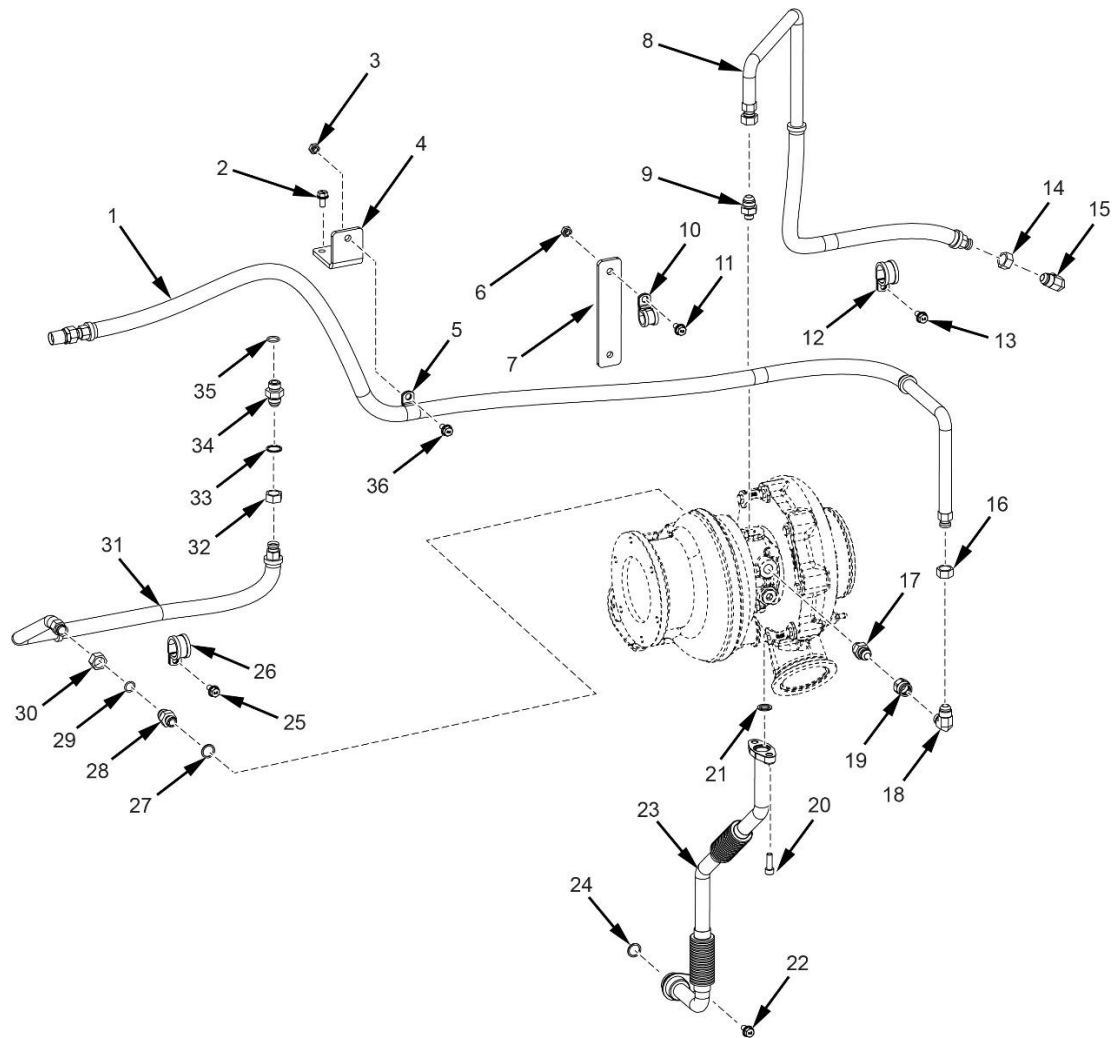

Figure 19. Turbocharger Assembly
2. Remove bolt (Figure 19, Item 36), clamp (Figure 19, Item 5) and nut (Figure 19, Item 3) from bracket (Figure 19, Item 4).
3. Remove two bolts (Figure 19, Item 2) and bracket (Figure 19, Item 4).
4. Remove bolt (Figure 19, Item 11), clamp (Figure 19, Item 10) and nut (Figure 19, Item 6) from bracket (Figure 19, Item 7).
5. Remove fitting (Figure 19, Item 16) and coolant outlet (Figure 19, Item 1) from elbow (Figure 19, Item 18).
6. Remove elbow (Figure 19, Item 18) from fitting (Figure 19, Item 19) and fitting (Figure 19, Item 17). Remove fitting (Figure 19, Item 17).
7. Remove bolt (Figure 19, Item 13), clamp (Figure 19, Item 12).
8. Remove fitting (Figure 19, Item 14) and elbow (Figure 19, Item 15) from oil inlet (Figure 19, Item 8).
9. Remove oil inlet (Figure 19, Item 8) and fitting (Figure 19, Item 9).
10. Remove bolt (Figure 19, Item 25), clamp (Figure 19, Item 26) from coolant inlet (Figure 19, Item 31).
11. Remove fitting (Figure 19, Item 32) from fitting (Figure 19, Item 34) and coolant inlet (Figure 19, Item 31). Remove O-rings (Figure 19, Item 33 and 35). Discard O-rings.
12. Remove fitting (Figure 19, Item 30) from fitting (Figure 19, Item 28) and coolant inlet (Figure 19, Item 31). Remove O-rings (Figure 19, Item 27 and 29). Discard O-rings.
13. Remove bolt (Figure 19, Item 20) from oil tube drain (Figure 19, Item 23).
14. Remove bolt (Figure 19, Item 22) from oil tube drain (Figure 19, Item 23).
15. Carefully remove oil tube drain (Figure 19, Item 23) and two O-rings (Figure 19, Item 21 and 24).
4. Place new O-rings (Figure 19, Items 21 and 24) and align the oil drain tube (Figure 19, Item 23) onto the turbo and cylinder block.
5. Install bolt (Figure 19, Item 22) and bolt (Figure 19, Item 20) to secure oil drain tube (Figure 19, Item 23). Torque the bolts.
6. Install new O-rings (Figure 19, Item 27 and 29) to fitting (Figure 19, Item 30) and install on turbocharger.
7. Install fitting (Figure 19, Item 30) and coolant inlet (Figure 19, Item 31) to fitting (Figure 19, Item 30).
8. Install new O-rings (Figure 19, Item 33 and 35) to fitting (Figure 19, Item 34) and install on manifold.
9. Install fitting (Figure 19, Item 32) and coolant inlet (Figure 19, Item 31) to fitting (Figure 19, Item 34).
10. Install clamp (Figure 19, Item 26) on coolant inlet (Figure 19, Item 31) and secure with bolt (Figure 19, Item 25).
11. Install fitting (Figure 19, Item 9) on turbocharger and install oil inlet (Figure 19, Item 8) on fitting (Figure 19, Item 9).
12. Install elbow (Figure 19, Item 15) to side of engine block and install fitting (Figure 19, Item 14) and oil inlet (Figure 19, Item 8).
13. Install clamp (Figure 19, Item 12) on oil inlet (Figure 19, Item 8) and secure with bolt (Figure 19, Item 13).
14. Install fitting (Figure 19, Item 17) on turbocharger and install fitting (Figure 19, Item 19) with elbow (Figure 19, Item 18).
15. Install coolant outlet (Figure 19, Item 1) to elbow (Figure 19, Item 18) and attach other end of coolant outlet to radiator.
16. Install bracket (Figure 19, Item 4) to thermostat housing and secure with two bolts (Figure 19, Item 2).
17. Install clamp (Figure 19, Item 5) on coolant outlet (Figure 19, Item 1) and secure to bracket (Figure 19, Item 4) with bolt (Figure 19, Item 36).
18. Install clamp (Figure 19, Item 10) to coolant outlet (Figure 19, Item 1) and secure to bracket (Figure 19, Item 7) with bolt (Figure 19, Item 11) and nut (Figure 19, Item 6).